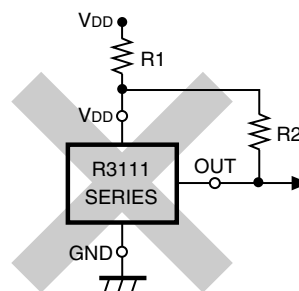

Figure 10
2. Wiring as shown in Figure 10 may cause the oscillation in both output types of R3111 Series.